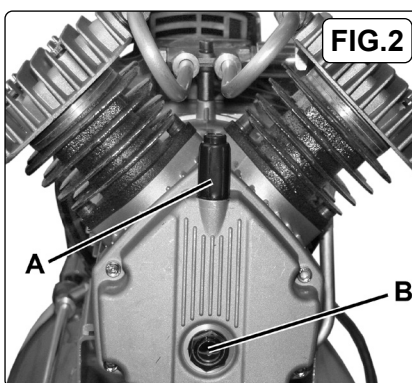

FIG.2
- 4.6. The compressor is shipped with oil in the pump, but the level needs checking before starting the unit for the first time. Check the oil level by referring to the oil sight glass (fig.2.B). If the oil level is not up to the red centre mark, it should be topped up. Remove the plastic transit plug from the oil filler hole and if required, pour in the recommended oil. (See section 5.6). Screw the filler/breather cap supplied into the aperture as shown (fig.2.A).
Remove the oil filler/breather plug (fig.2.A) then unscrew oil sight glass (fig.2.B).